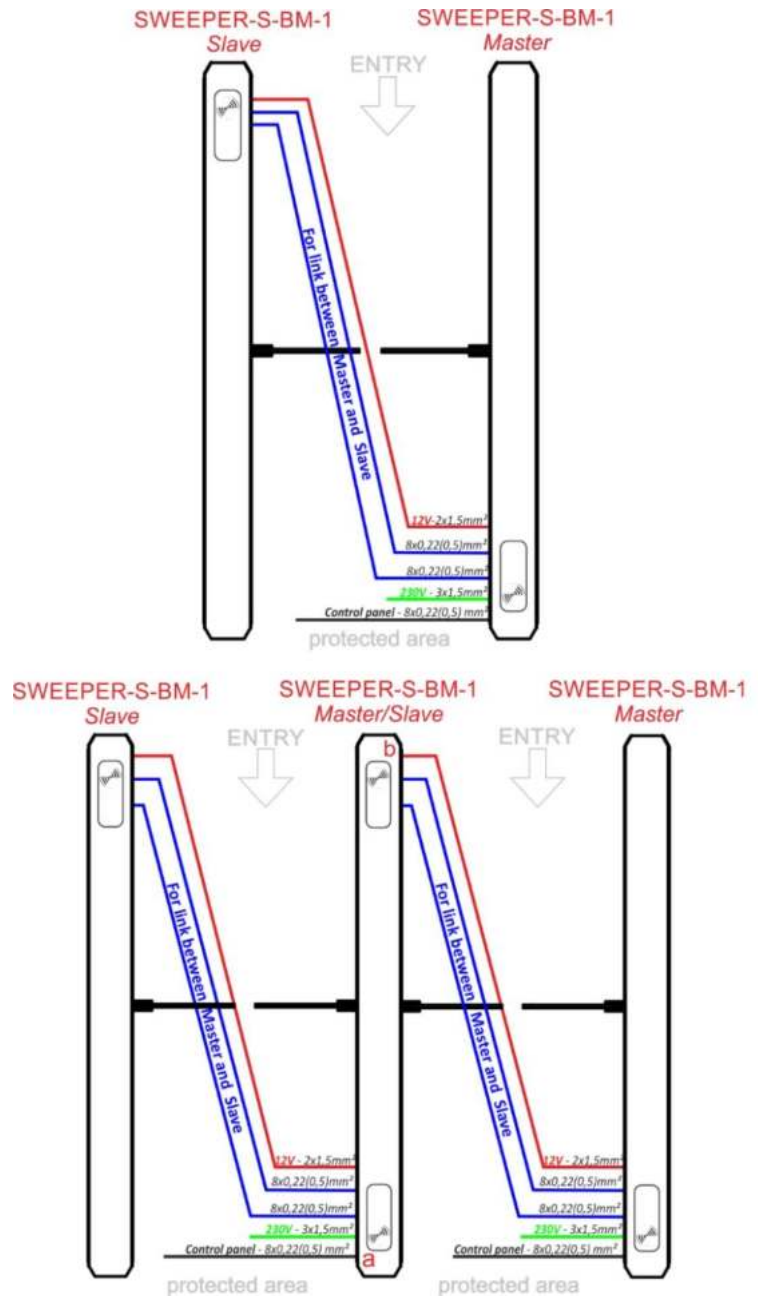

Fig. 17 – General view of connection between cabinets
10) The cable outlet location to be aligned with the hole on the turnstile mounting plate (Fig. 17).